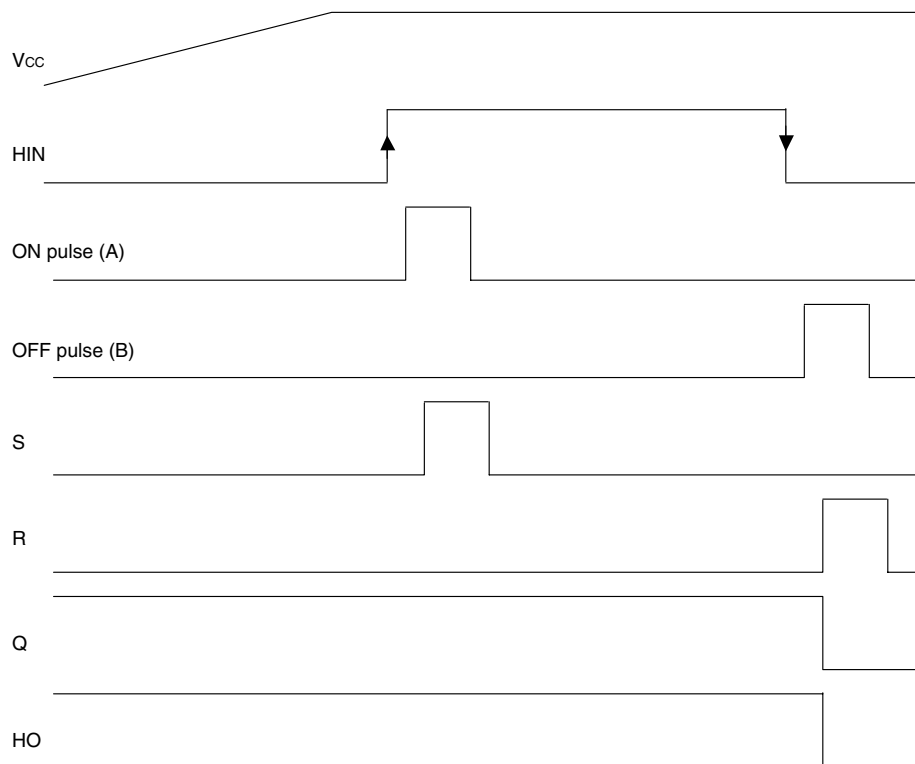

Fig. 11 I/O Timing Chart for the Case Where HO Status Remains "High" and Vcc Voltage Rises
If the HO status remains “high” and Vcc voltage rises although the signal input to the HIN pin is “low” (signal level to turn off the output), the HO status will not be turned “low” until the next falling edge of signal input to the HIN pin, as shown in Fig. 11. If the high-side supply voltage (VB) drops and activates the under-voltage (UV) lockout circuit, however, the HO status will become “low” regardless of the HIN status.